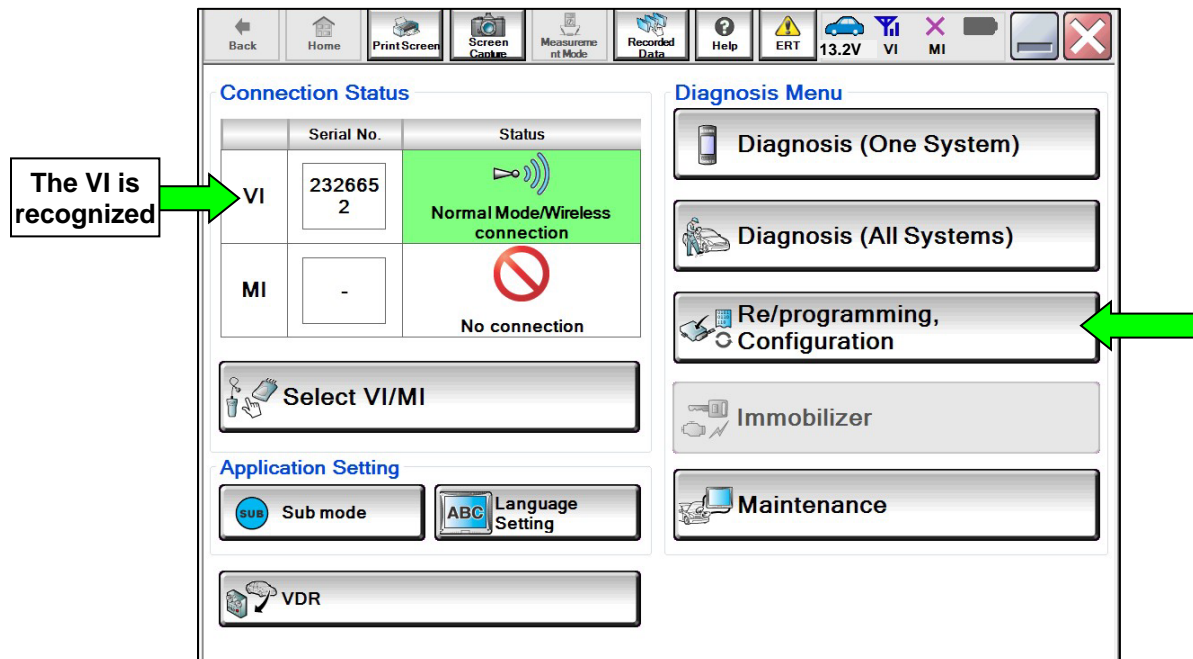

Figure 1
3. Turn the EV system ON (Not Ready mode) by pressing the power switch two (2) times WITHOUT depressing the brake pedal.
7. Wait for the VI3 to be recognized (Figure 1).